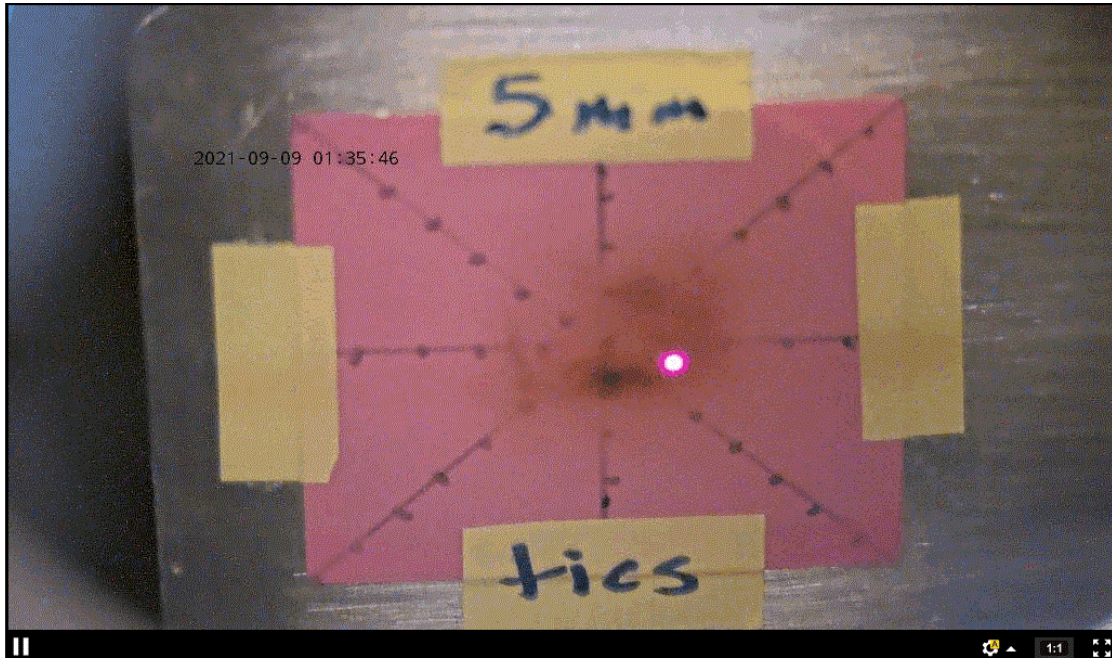

Figure 3: Beam spot on the Faraday cup viewer.
- a. make sure beam is clearly visible on the downstream viewer, use Chromox screen¹. Beam should be within 10 mm (2-tick marks) around the center (see Figure 3)